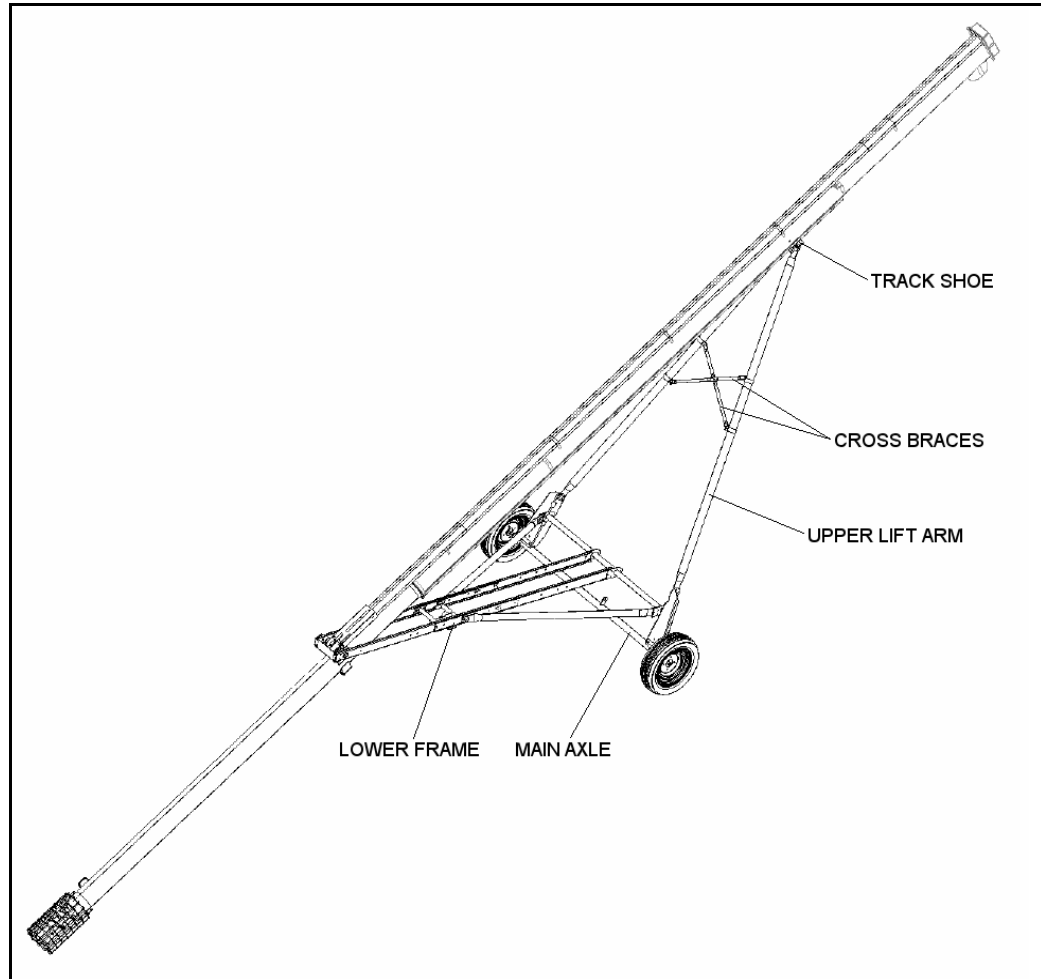

Figure 3.16 Frame Assembly
10. Attach upright brackets to main axle with six 7/16" x 1-1/4" bolts and locknuts (Figure 3.16).
➔ **For auger models 841, 846, 851, and 1041 only:** install crossbraces between the upper lift arms with four 3" tube clamps and four 1/2 x 1-1/4" bolts and locknuts. Use a 1/2 x 1-1/4" bolt and locknut for the centers (where cross-members intersect) (Figure 3.16).